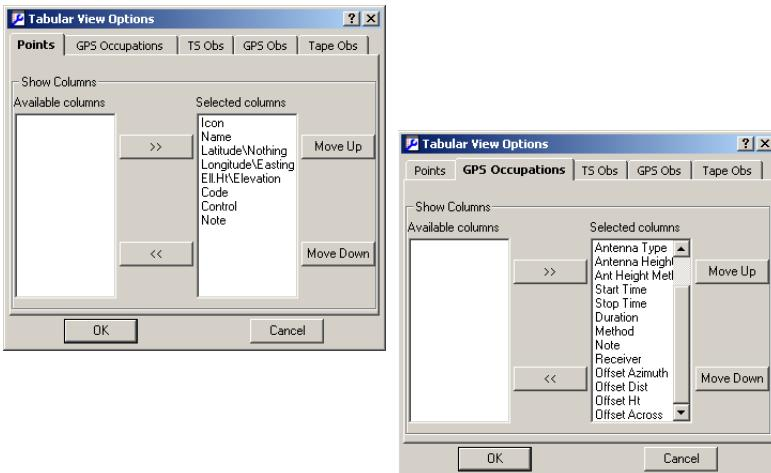

Figure 5-24. Tabular View Options Examples
1. Select the desired tab in the *Tabular View Option* window (Figure 5-24).